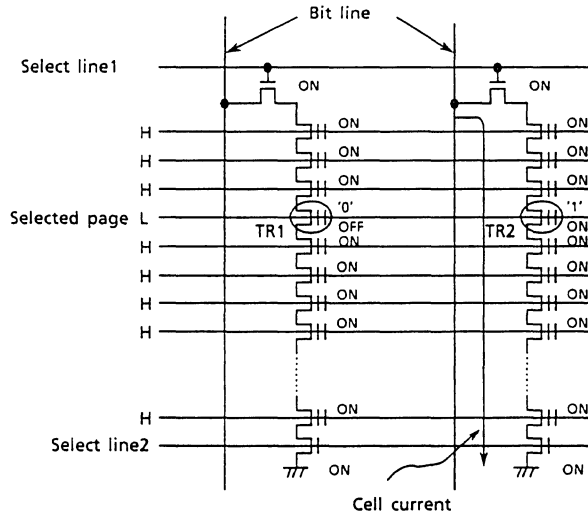

Figure 21. TC5816 Read Device Physics
Figure 21 shows the memory cell and details of the read operation:
- (1) Select lines 1 and 2 in the block including the selected page are biased at a high level so that the 16 NAND memory cell array is connected to the bit line and ground.
- (2) Zero volts is applied to the control gates of the selected page and a high level voltage is applied to the control gates of the unselected pages.
- (3) In Figure 21, transistor TR2 with data "1" turns on, transistor TR1 with data "0" turns off, and all other unselected transistors turn on.
- (4) The precharged bit line tied to TR2 is discharged through TR2 as cell current flows to ground while the precharged bit line tied to TR1 remains at a high level because current does not flow. The sense amplifiers tied to the bit lines thus sense the voltage levels as "1" and "0" respectively.